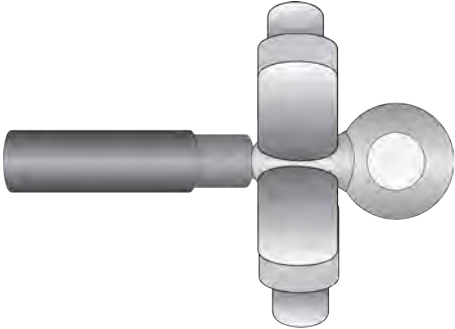

Figure 46. Crimping the Ring Terminal Lug
- 4. Crimp the ring terminal lug with a wire crimping tool to secure it on the grounding wire. Refer to Figure 46.